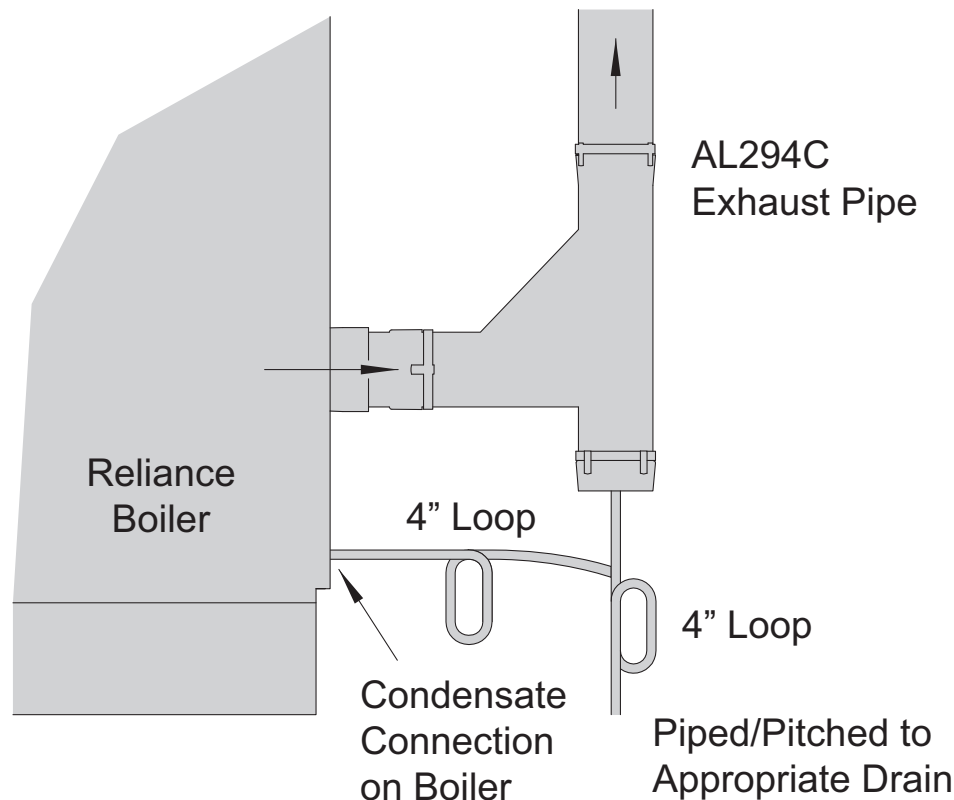

FIGURE 9 - CONDENSATE DRAIN PIPING FOR RELIANCE BOILERS
8. All piping (Figure 9) must be galvanized, or stainless steel and should be free of leaks. Copper, carbon steel/iron pipe, PVC or CPVC are not acceptable.
3. A tee/boot tee with a drain must be installed at the first elbow from the boiler flue outlet. There must be a minimum of 4" of water within a loop style trap (loop diameter 4"). The loop style trap can be high temperature silicone rated for 500 F (see Figure 9) and must be piped/pitched to drain freely.
5. The condensate connection on the boiler should be piped into the stack drain piping (see Figure 9). The pipe from the boiler directed to the drain should be installed at a slope of 1/4" per foot.